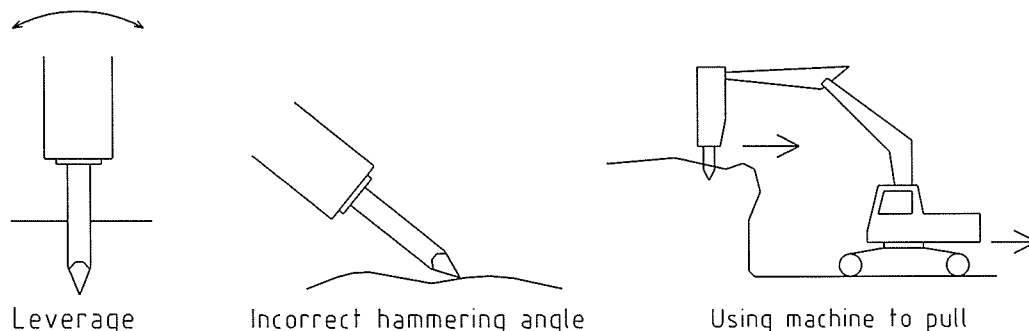

Fig. 1
1. The main cause of increased fatigue stress in the chisel is any form of side pressure during service that causes the chisel to bend like a lever, using the incorrect driving angle, or attempting to break ground by pulling the machine, all of that are detrimental to the life of a chisel and should be avoided (see Figure 1).